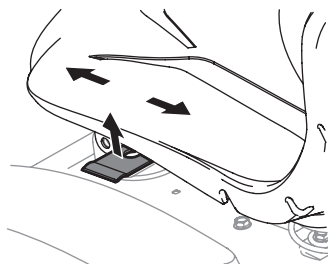

Figure 10
3. Release the adjustment lever. Make sure seat is locked into position before operating the tractor (Figure 10).